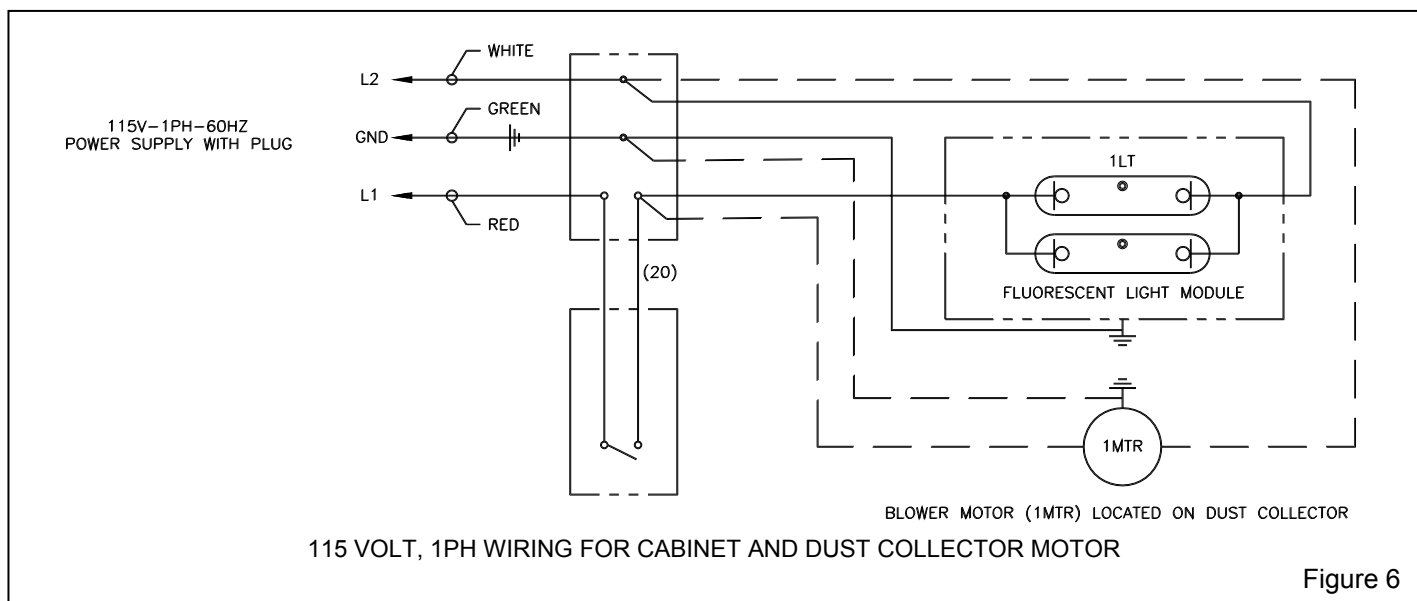

Figure 6
2.5.1.2 Refer to the wiring schematic in Figure 6 and wire the dust collector motor per instruction on the motor data-plate, to the junction box mounted on the cabinet. When wired as noted in Figure 6, the dust collector